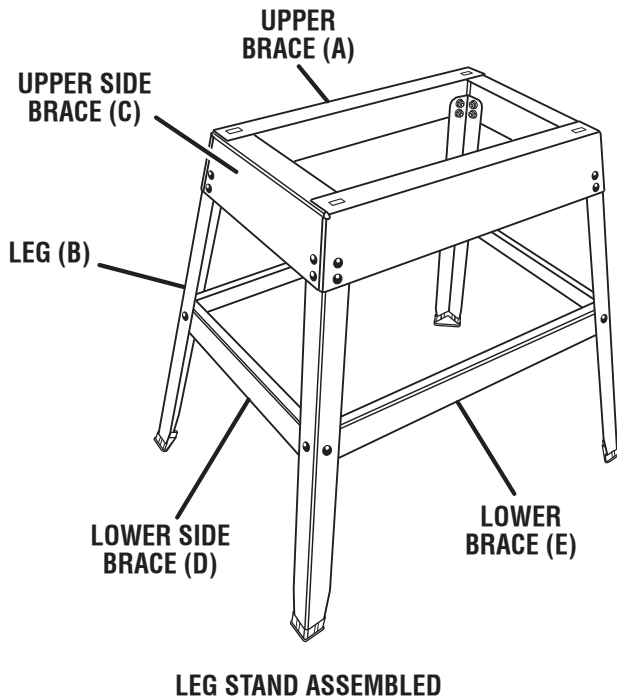

Fig. 10
- Turn leg stand upright as shown in figure 10.